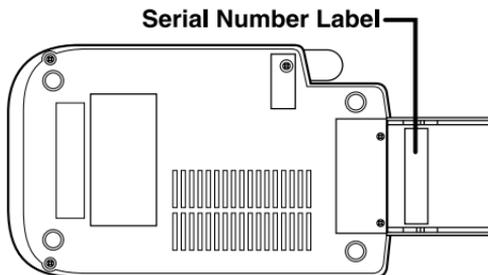

Figure 18 Serial Number Label On Paper Roll Cradle
2. Obtain the Product Serial Number (S/N) from the label that is affixed to the back of the paper roll cradle (see Figure 18). For example, “S/N XXX-XXX-XXX”.